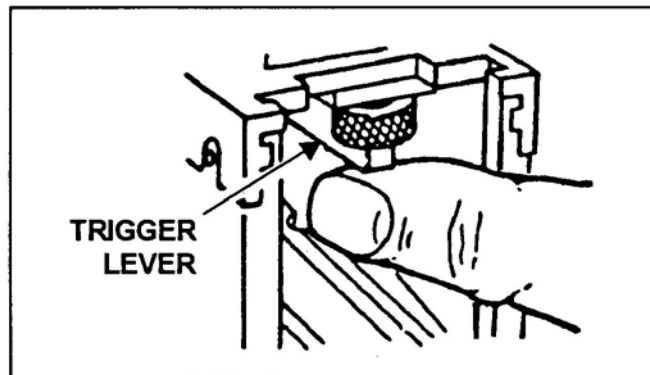

Figure 9. Push Trigger Lever
- (6) Try to fire by pushing firmly up on the trigger lever (Figure 9). The gun should not fire.